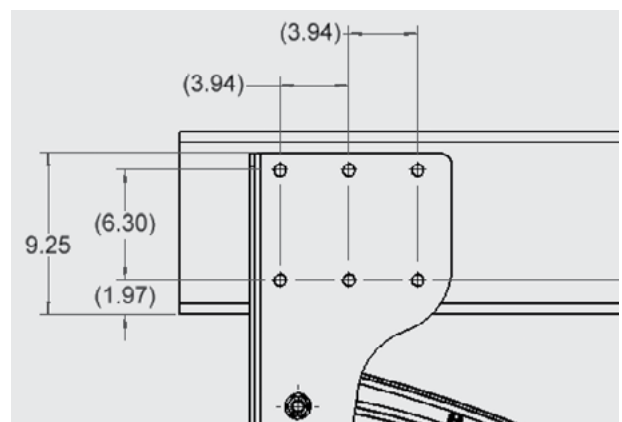

Figure 7. Reference Mounting Bolt Pattern
- Minimum recommended bolt hole pattern for hanger to frame attachment. Figure 7 shows a reference mounting bolt hole pattern. Use 5/8 - 11 Hex Bolt Grade 8 for frame mounting and torque to 180 ft-lbs. Contact Hendrickson Auxiliary Axle Customer Service with your specific bolt pattern for evaluation of applicability.